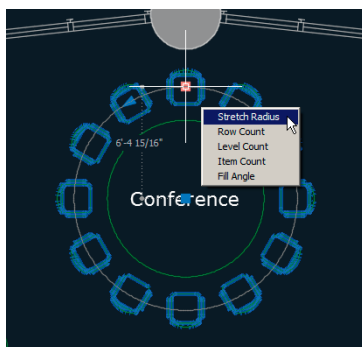

FIGURE 4.21 Editing a polar array with its grips
7. Click any one of the chairs to select the polar array. Hover the cursor over the base point grip, and choose Stretch Radius (see Figure 4.21). Type **5'9** (or **175** for metric); then press Enter and Esc. The chairs more closely wrap around the smaller table.